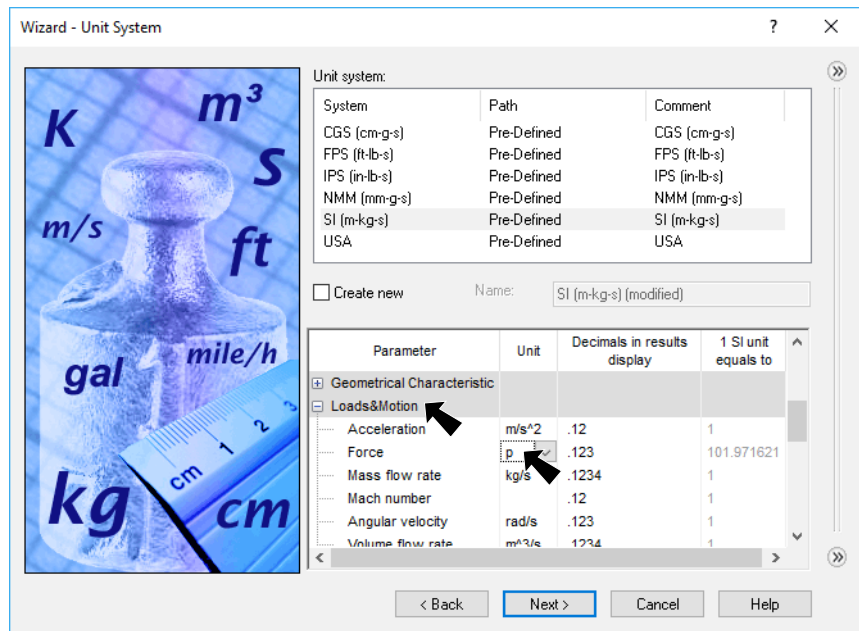

Fig. 4
Step 7. Scroll down Parameters, expand **Loads & Motion** and set Force units to **Gram force**, **Fig. 4**. Gram force unit is p.